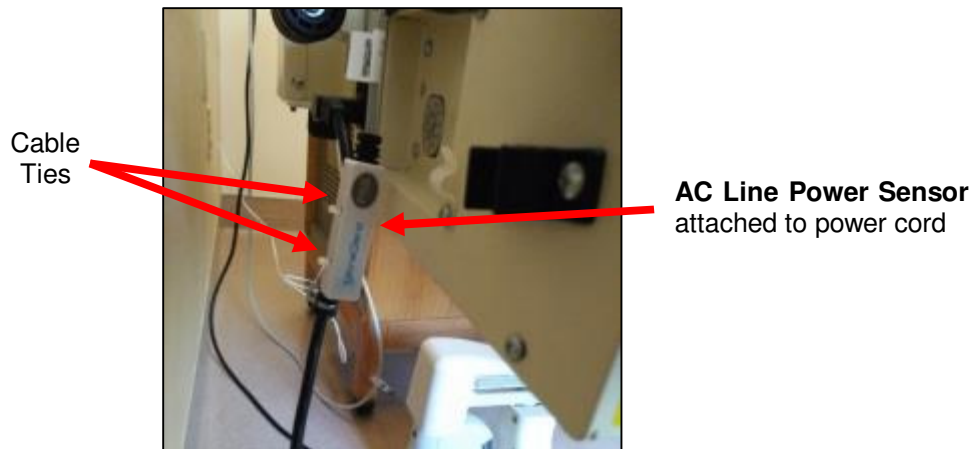

Figure 4. **AC Line Power Sensor** Cable Routing to the **Bed Beacon**
1. Place cable tie holders, cable ties and route **AC Line Power Sensor** cable to the **Bed Beacon** as shown (see *Figure 4 & 5*). Make sure the mounting surfaces are clean and free of dirt and oil. A soft cloth dampened with isopropyl alcohol works well to clean mounting surfaces.
2. Route the **AC Line Power Sensor** cable underneath the headboard along the metal rail frame. Secure the cable with cable ties shown in *Figure 4 & 5*.